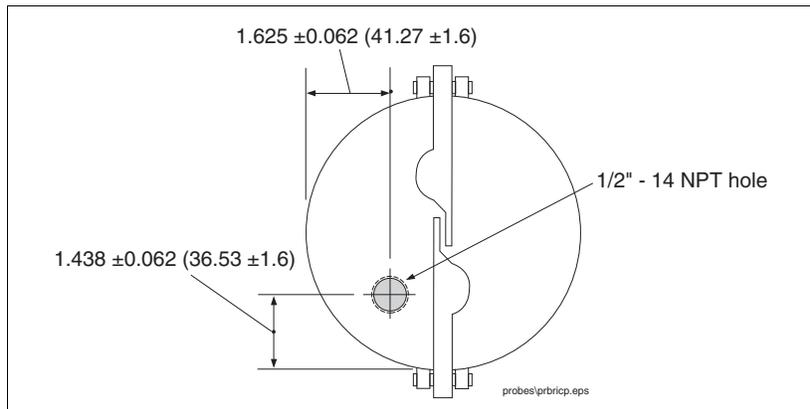

Figure 8. Modifying an existing metal riser cap
2. Drill and tap the cap for a 1/2"-14 NPT cord grip thread [Figure 8].